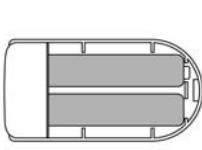

Figure 6
- 2) Install the two "AAA" Alkali batteries, pay attention to the polarity, shown as Figure 6..